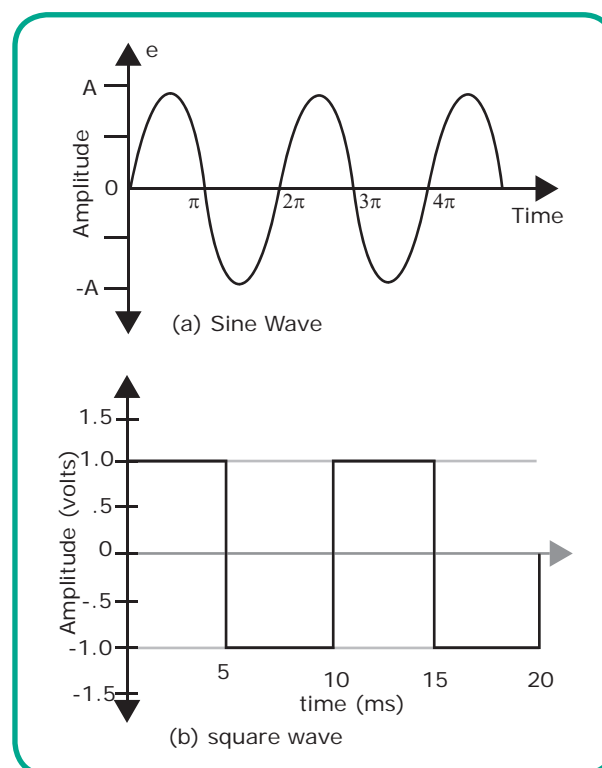

Figure 7.1 (a) Sine Wave, (b) square wave
**Sinusoidal oscillator:** If the output voltage is a sine wave function of time the oscillator is called as “sinusoidal” or Harmonic oscillator. Positive feedback and negative resistance oscillators belong to this category. The waveform generated by the sinusoidal oscillator is shown in Figure 7.1(a)
**Non sinusoidal (or) Relaxation Oscillator:** This type of oscillators has non-sinusoidal output such as a square, triangular and sawtooth waveforms. The waveform generated by Non sinusoidal oscillator shown in Figure 7.1(b)